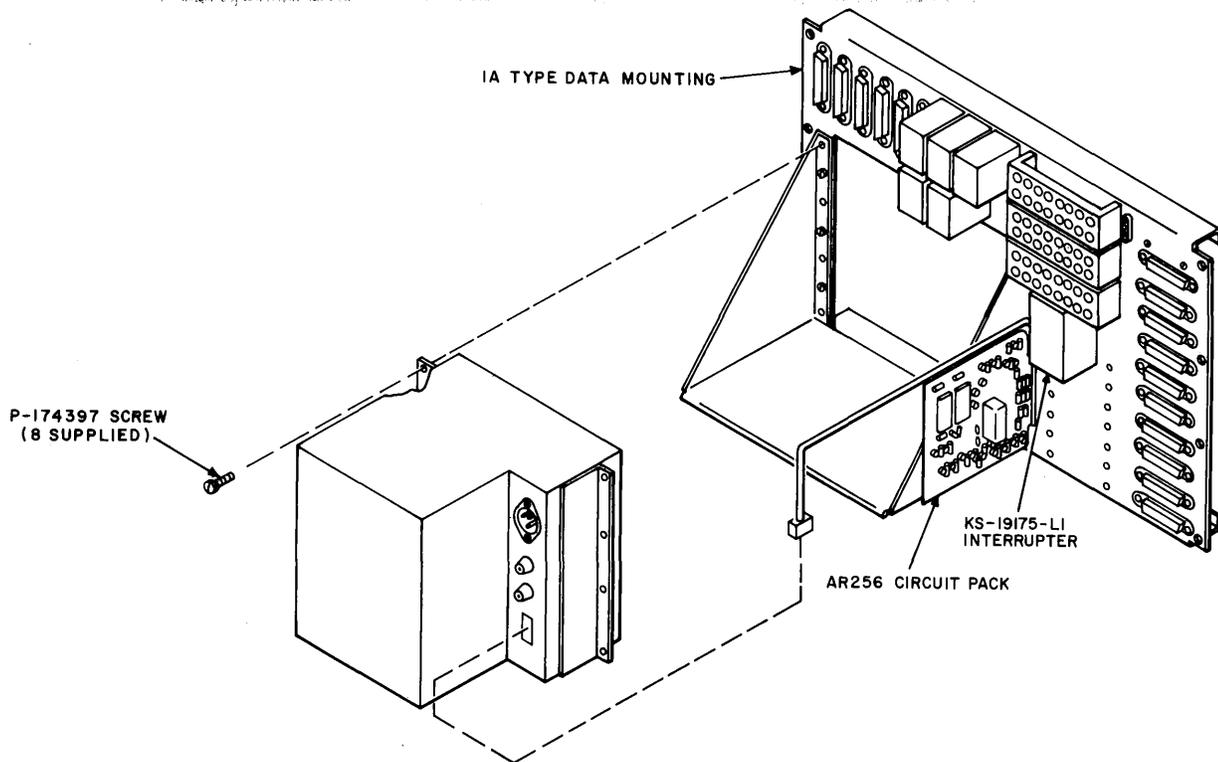

Fig. 8—Details for Mounting 31A Power Unit
3.06 The 31A power units are mounted on the shelf of the 1A-type Data Mountings. Installation of the power units is identical for either data mounting and should be in accordance with Fig. 8.